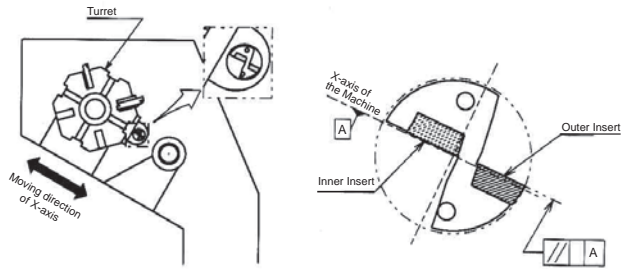
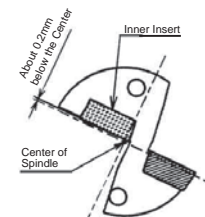

Fig.1 Installed to the Lathe
Fig.5 Front View of the Drill
- ① The top face of the outer insert should be parallel to the X-axis to allow for offset cutting.
- ② It is recommended to set the outer insert as shown in Fig.1 with the outer insert facing the operator.
When installing inner insert as shown in Fig.1, it will be set around 0.2mm below the Center of Spindle. (Fig.5)